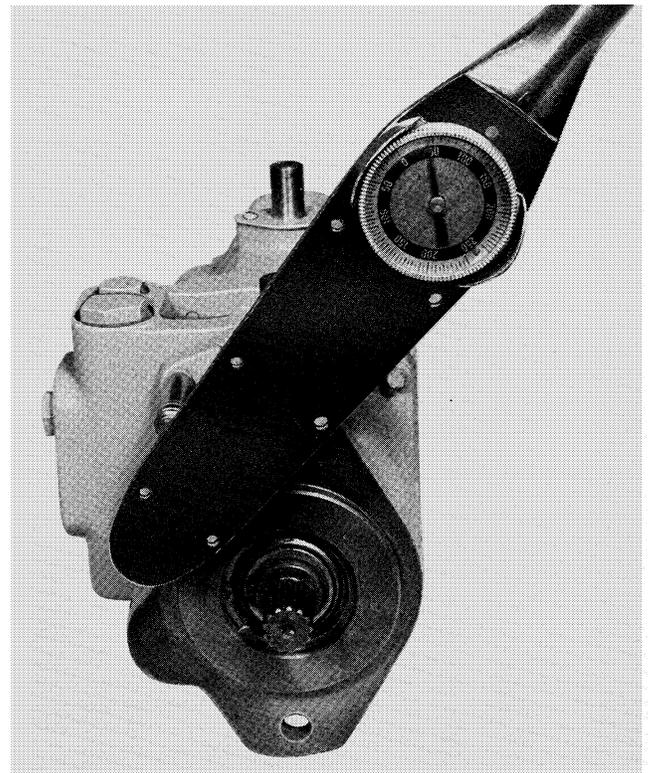

FIGURE 42
4. **Rotating Group Assembly**—If the spring and washers were removed from the cylinder block, reassemble them. The group is assembled with only the washer provided with the kit. **HOWEVER, THE PUMP AND MOTOR GROUPS MUST BE SHIMMED. SEE TRANSMISSION SHIMMING PROCEDURE, SECTION 4.** When properly assembled, the spring can be compressed about $\frac{1}{8}$ " with the three pins in place. Install the pump and motor assemblies on the valve plate. Be sure to install the bearing sleeve and gaskets before installing the four retaining screws. Torque screws to 42-45 ft. lbs. (57-61 N·m). See Figure 42. **Install the NEW housing gaskets dry.**